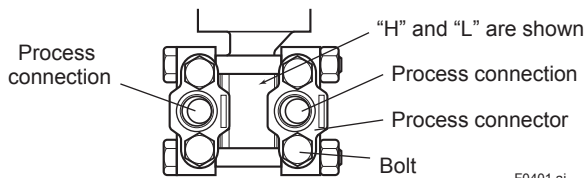

Figure 4.1 “H” and “L” Symbols on a Capsule Assembly
#### (1) Check the High and Low Pressure Connections on the Transmitter (Figure 4.1)